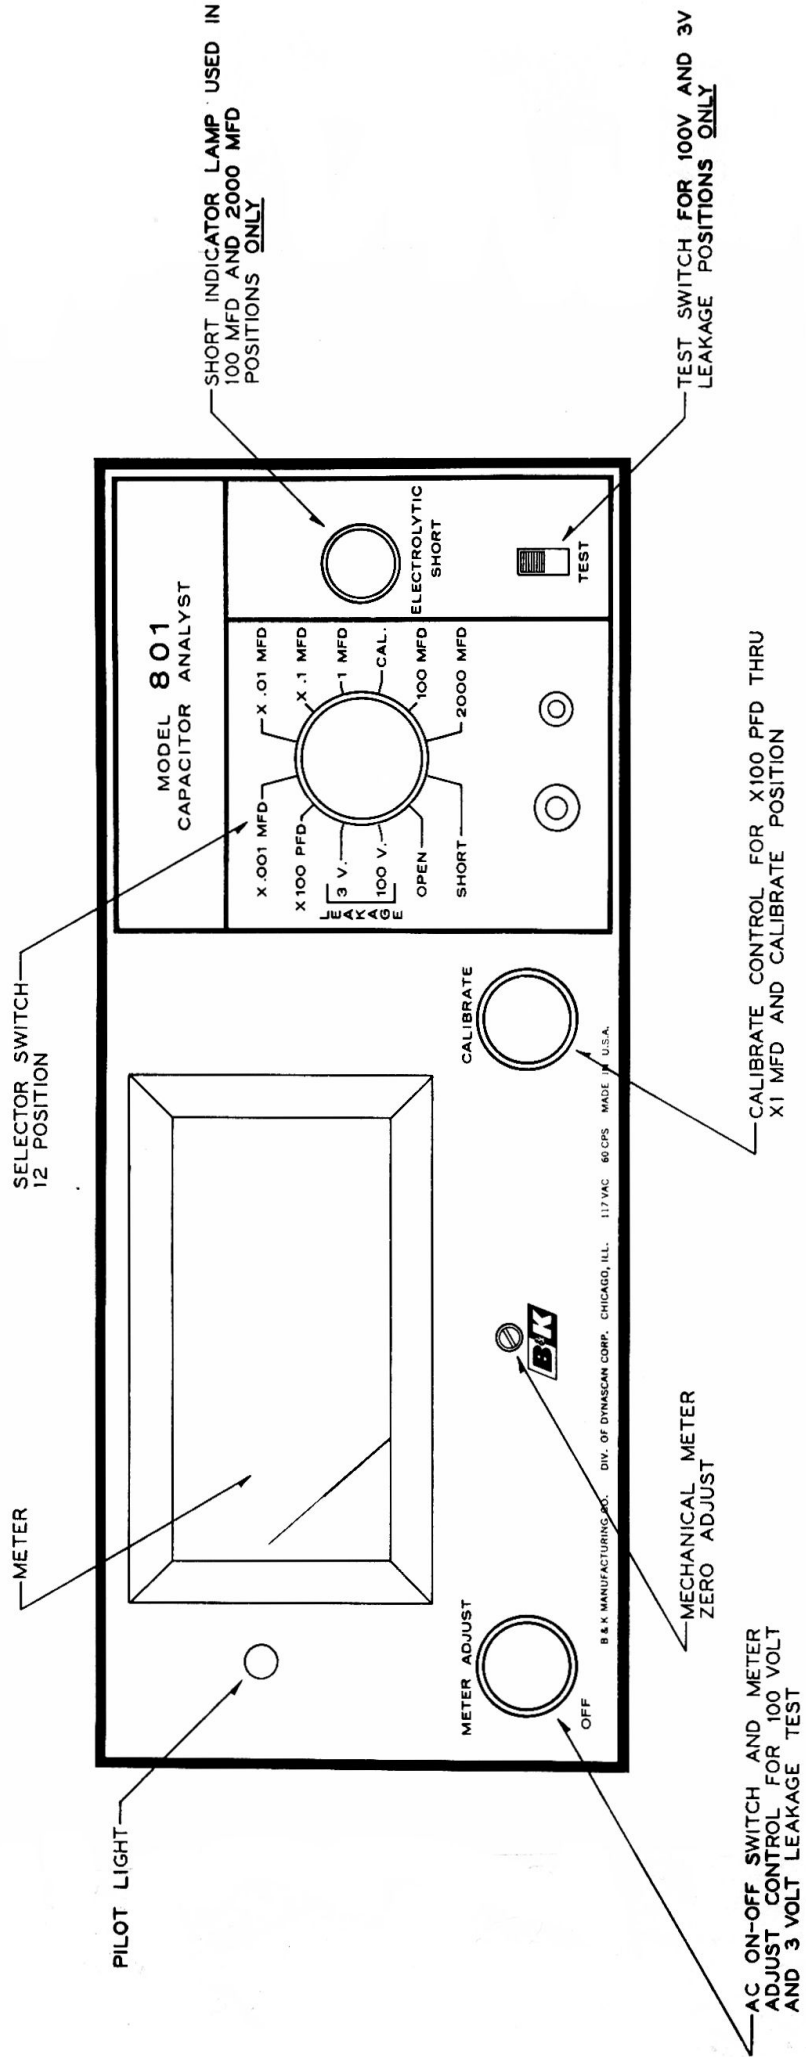

FIGURE 1. CONTROL LOCATIONS
2. Rotate the *Selector* switch to the SHORT position. See Figure 1.